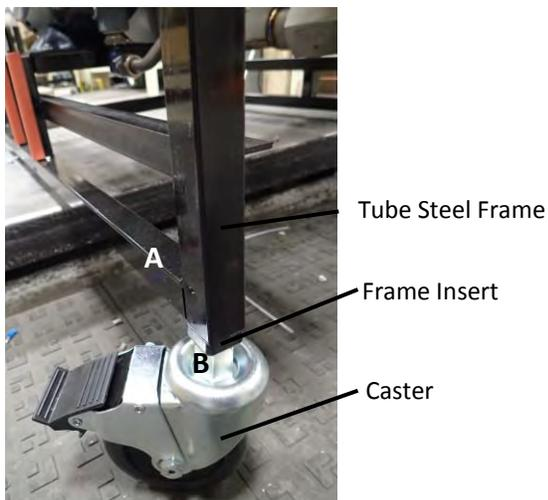

Figure 1. Shown with left side panel removed
2. Using two floor jacks, position jacks near casters under the frame (figure 1. Point A). Both jacks must be positioned near casters on the same side of the fryer. For example, lift both the front casters off of the ground if replacing a front caster.